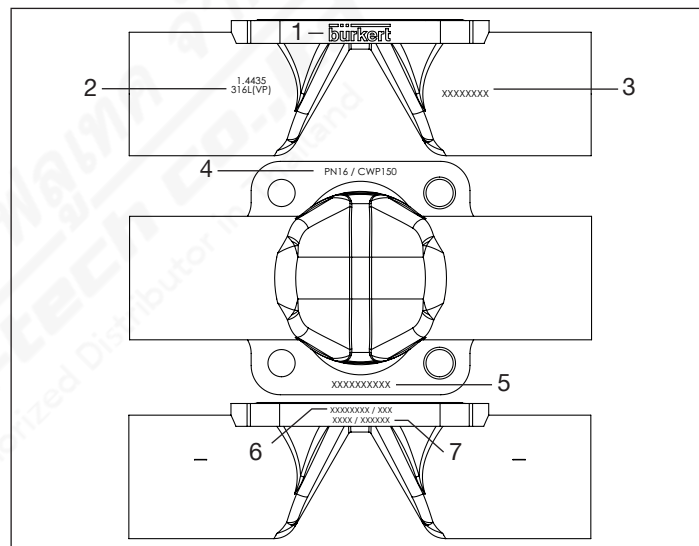

Fig. 10: Labelling on tube valve body
- The self-draining angle (α) depends on the valve body size and the inner diameter of the port connection (DN).
- The self-draining angle is specified as a value on forged steel valve bodies (VS) and tube valve bodies (VP) (see “Fig. 8” and “Fig. 10”).